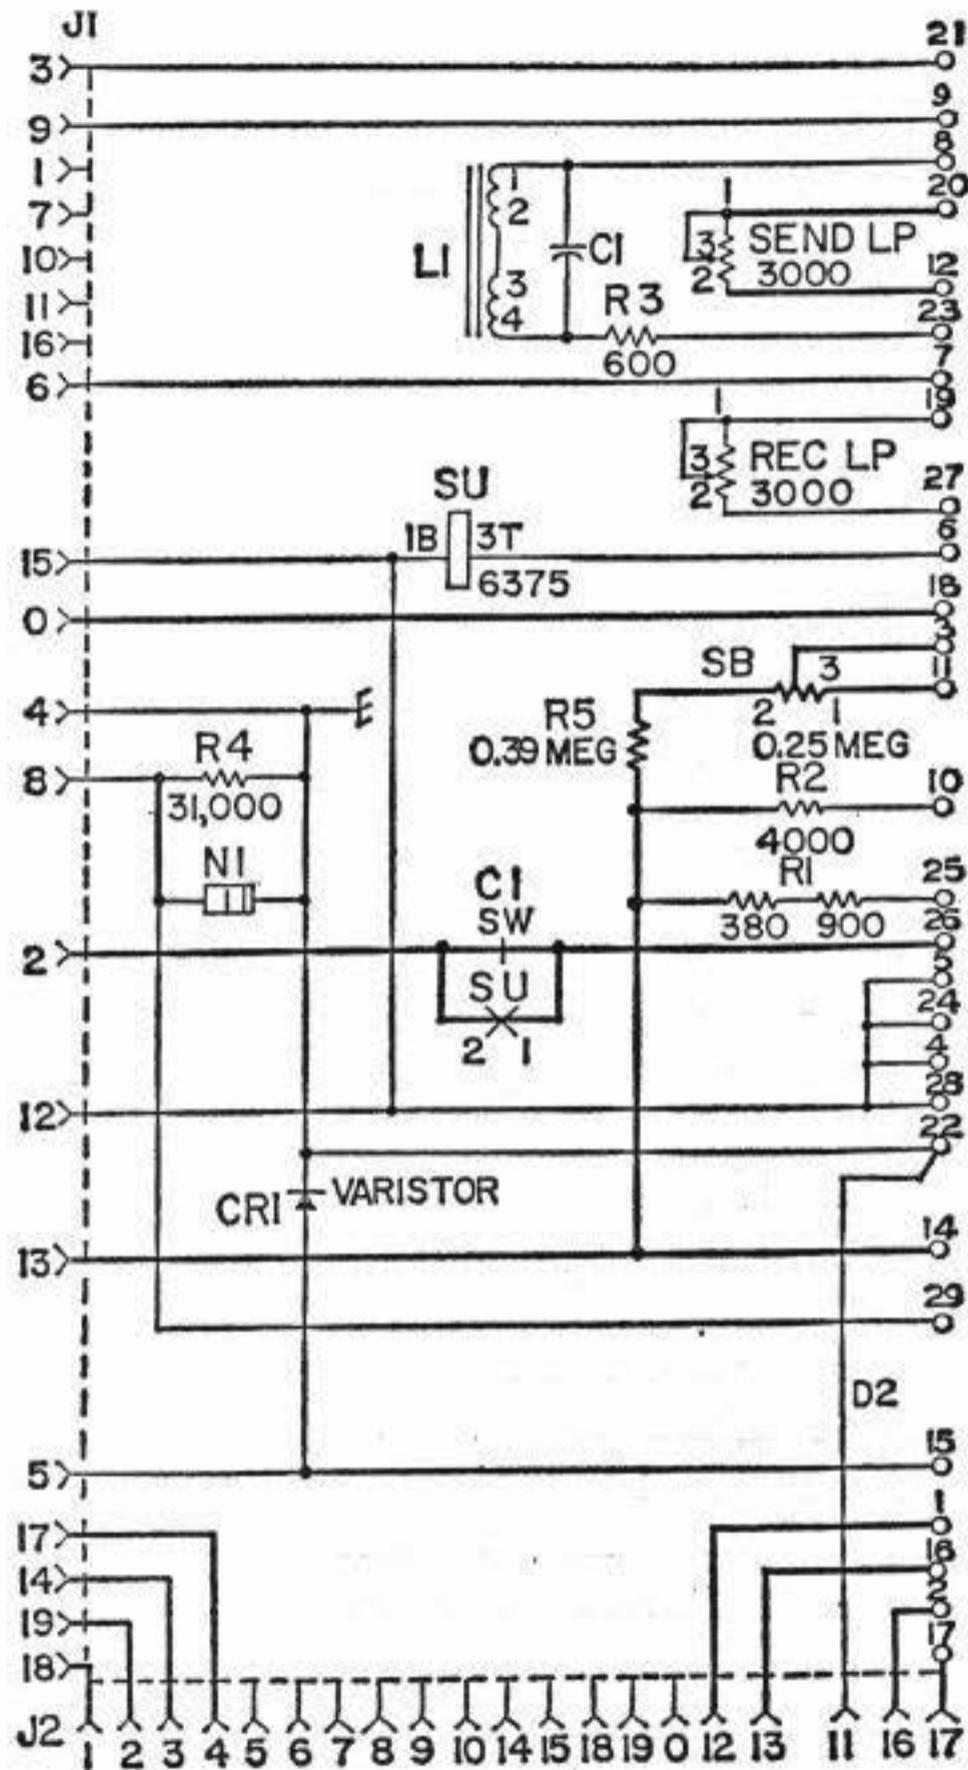
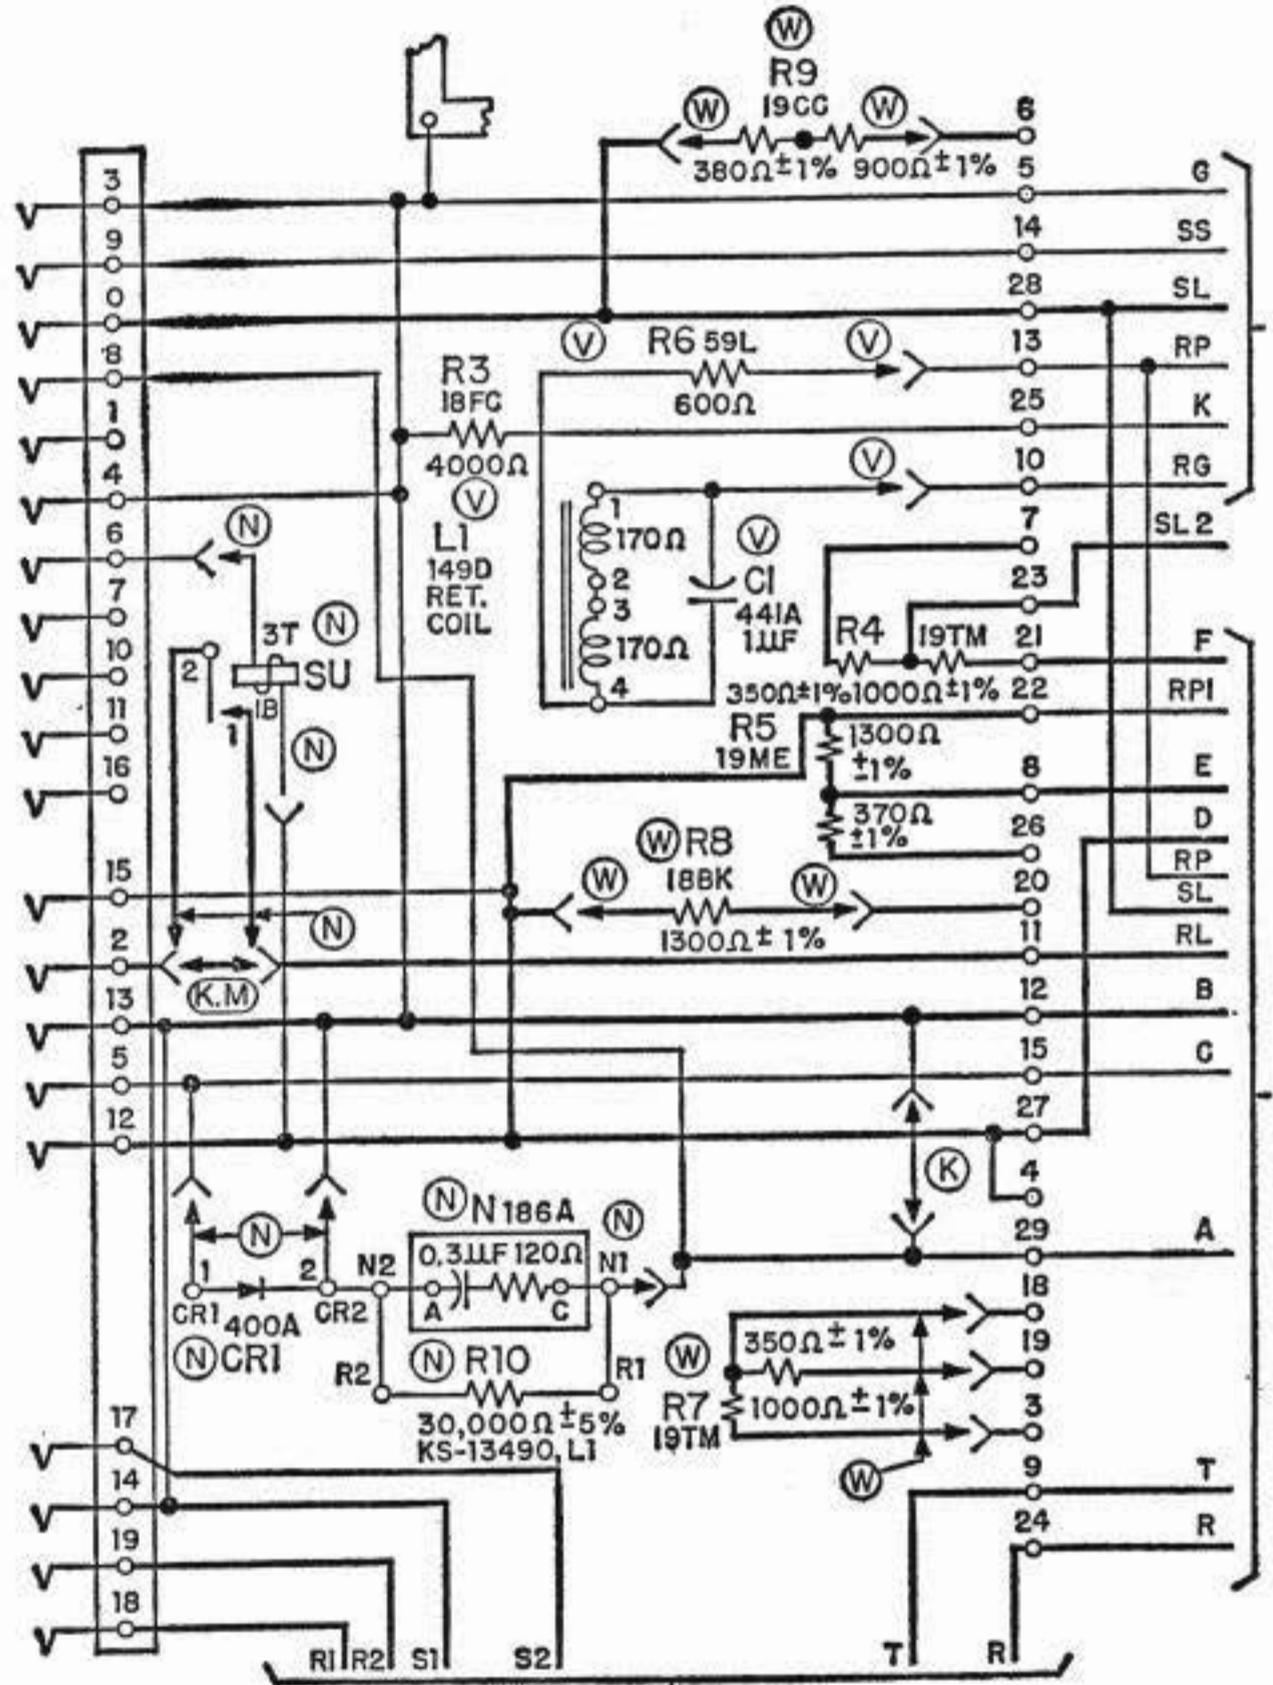

Fig. 8—130B2 or 130C1 Subscriber Set
Fig. 9—130B1 Subscriber Set
2.11 Fig. 8 is the schematic of a 130B2 or 130C1 subset. The 130B1 subset is now Manufacture Discontinued. The schematic of this subset is shown in Fig. 9.
(f) Adjust the potentiometers P1 and P2 (Fig. 9) to find a setting such that the gain may be increased as far as possible without causing the loop current to drop below its "Mark Hold" value. The REC GAIN control and the potentiometers P1 and P2 should be adjusted alternately, first increasing the gain until the loop current drops slightly and then adjusting the potentiometers to bring the loop current back to its "Mark Hold" value.